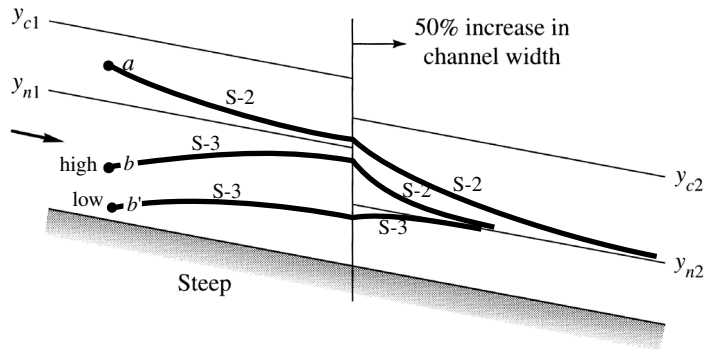

Fig. P10.104
**10.104** The rectangular channel flow in Fig. P10.104 expands to a cross-section 50% wider. Beginning at points  $a$  and  $b$ , sketch and label the water-surface profiles which are expected for gradually-varied flow.